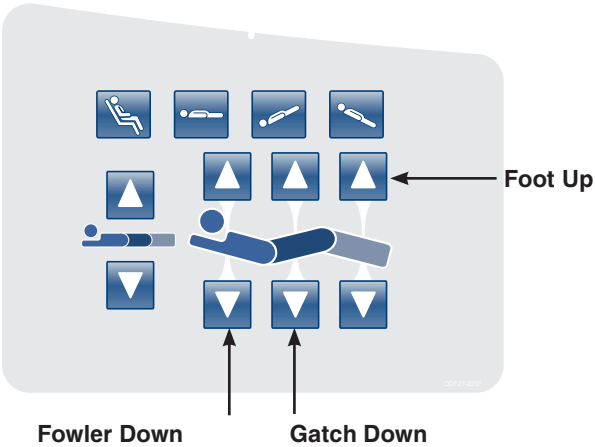

Figure 6: HE Siderail Control Panel - (Right Side Shown)
- 6. Place the Litter surface to a flat position by pressing simultaneously the **Foot Up**, **Fowler Down** and **Gatch Down** buttons as shown in Figure 6.